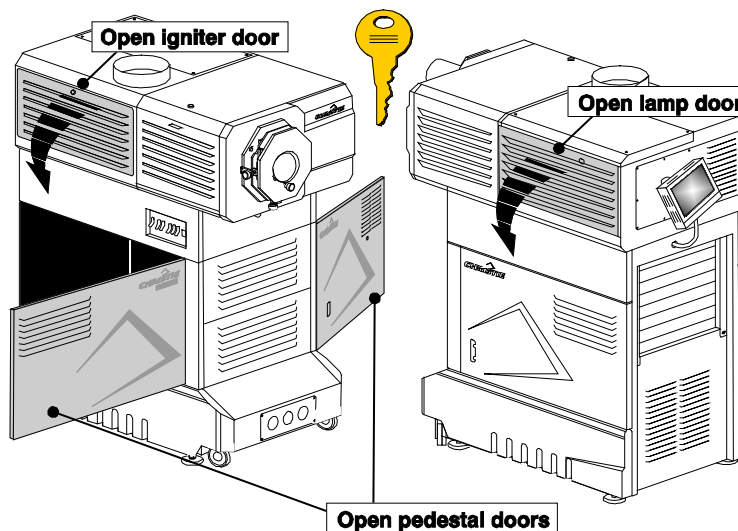

Figure 2.5. Open projector for access
- 5-1) Open both pedestal doors (Figure 2.5).
- 5-2) From the projection head, a) open the rear side door on the operator’s side, and b) open the lamp door. See Figure 2.5.
- Make sure igniter door is open (Figure 2.5). From the ballast in the pedestal, route the main black and white lamp leads through the nearby hole in the underside of the projection head. See Figure 2.9.
- With the lamp door removed (refer back to Figure 2.5), turn the small knob and swing open the lamp cooling compartment door.